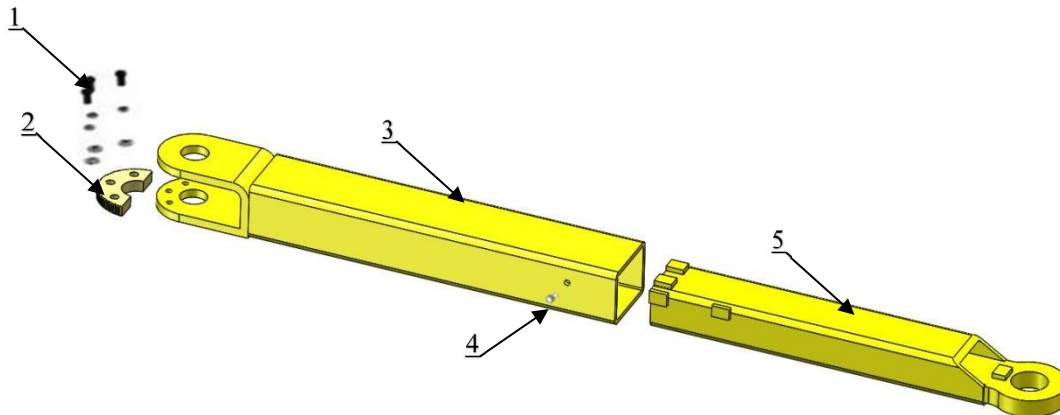

Fig.39
1. Adjust the lowering speed (Fig.39)